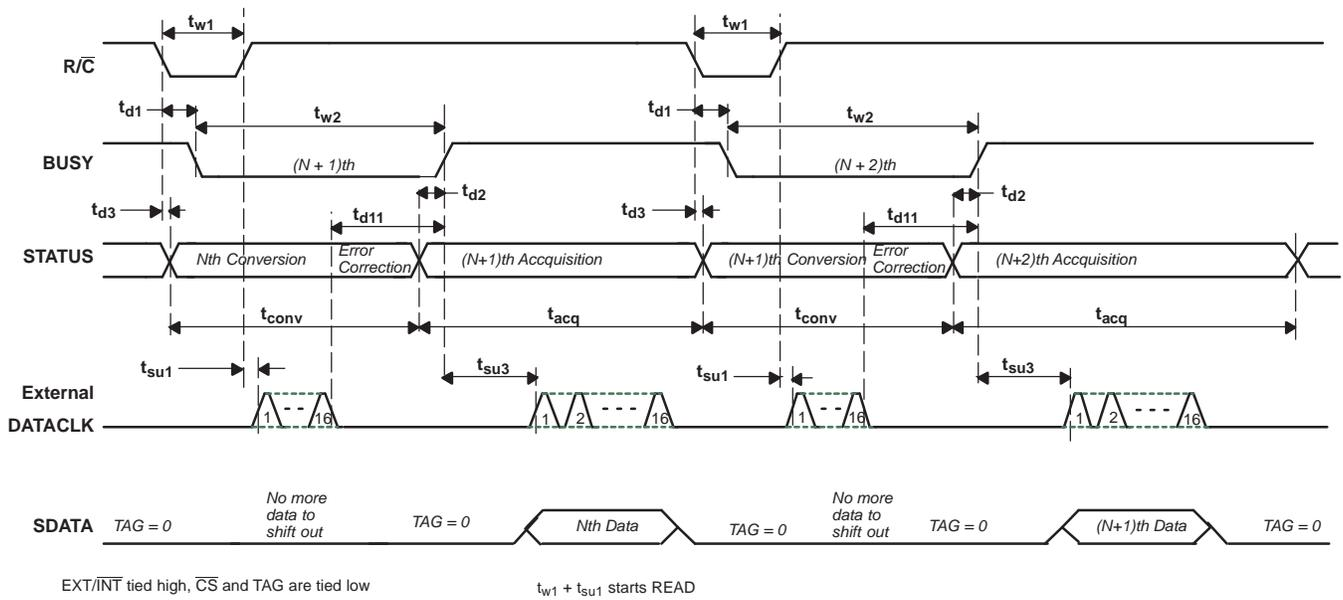

Figure 34. Basic Conversion Timing: External DATACLK
(1) See Figure 34, Figure 35, and Figure 36 for constraints on data valid from conversion *N*−1.